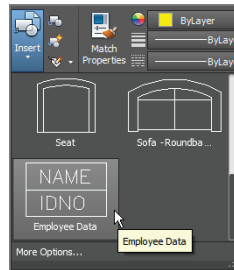

FIGURE 15.13 Inserting the Employee Data block you defined in the previous section
- Click the Insert tool in the Block panel. Scroll down the list of icons in the block gallery and select Employee Data (see Figure 15.13).